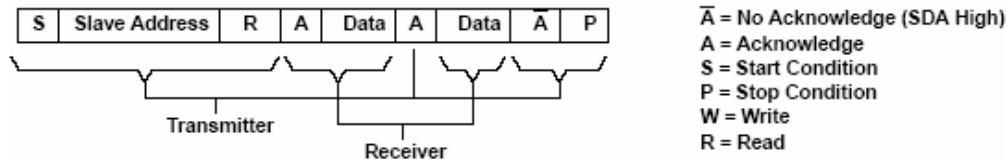
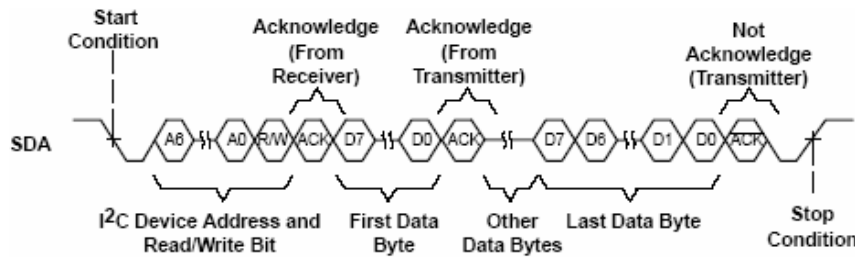

Figure 30. I2C Read Cycle
Figure 31. Multiple Byte Read Transfer
During a read cycle, the slave receiver will acknowledge the initial address byte if it decodes the address as its address. Following this initial acknowledge by the slave, the master device becomes a receiver and acknowledges data bytes sent by the slave. When the master has received all of the requested data bytes from the slave, the not acknowledge (A) condition is initiated by the master by keeping the SDA signal high just before it asserts the stop (P) condition. This sequence terminates a read cycle as shown in Figure 30 and Figure 31. See Example – Reading from the SN75DP139 section for more information.
The SN75DP139 operates using a multiple byte transfer protocol similar to Figure 31. The internal memory of the SN75DP139 contains the phrase “DP-HDMI ADAPTOR<EOT>” converted to ASCII characters. The internal memory address registers and the value of each can be found in Table 4.